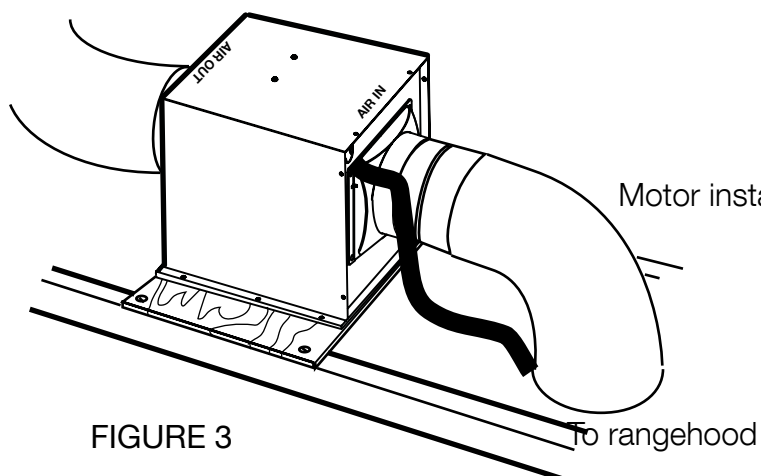

FIGURE 3
4. Raise the chimney top until its holes align with the holes in the chimney mounting bracket located on the wall. FIGURE 3.
2. Using the screws provided mount the motor unit onto a suitable structure in the roof space. Check that the direction of air is flowing the right way! Mount on a board across the roof joists if required. FIGURE 3.